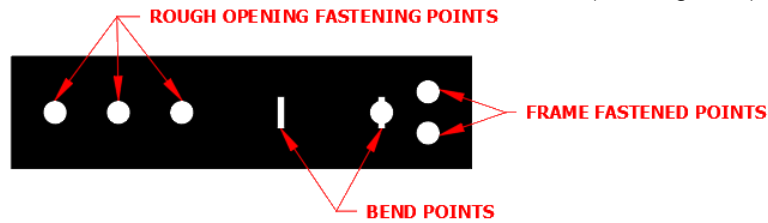

Figure 9: Unbent Steel Strap
- II. Steel strap will be delivered unbent and attached to the frame (See Figure 9)